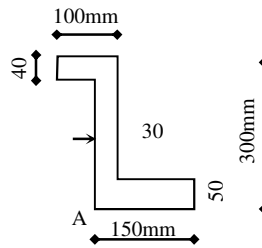

Fig. 6
5. Figure 6 shows the cross section of a structural member.